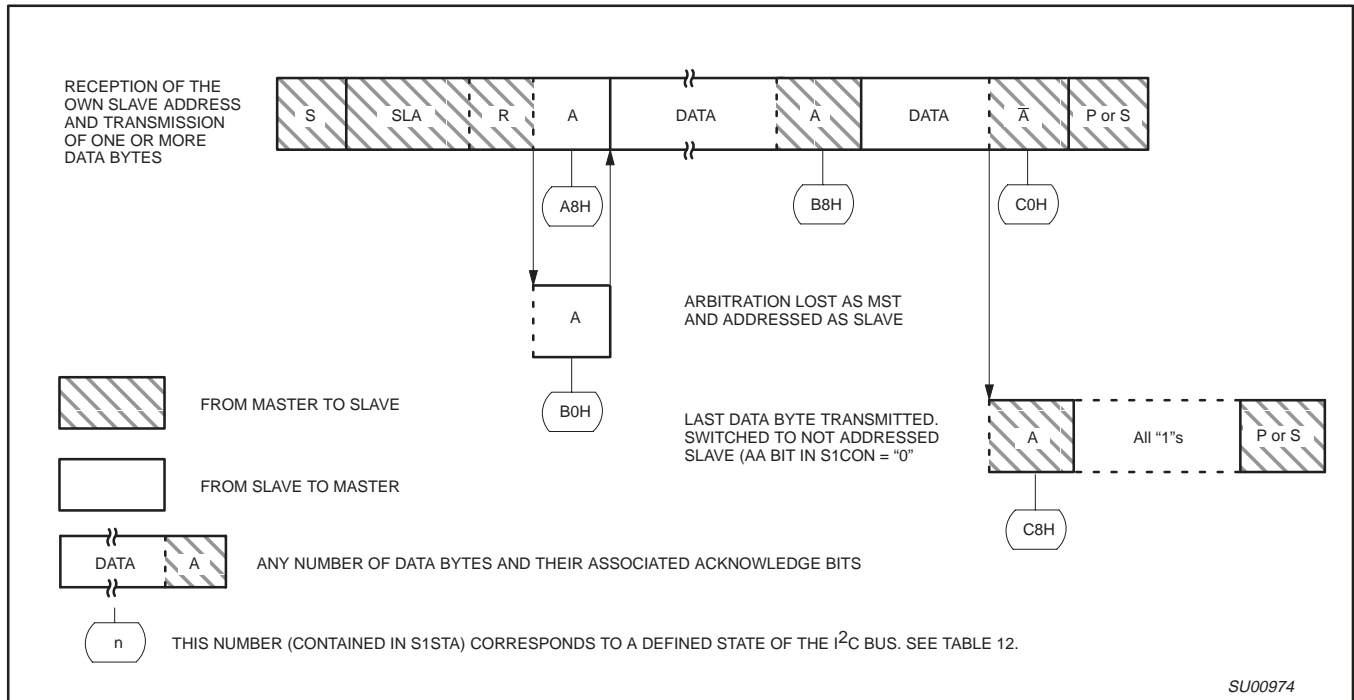

Figure 25. Format and States of the Slave Transmitter Mode
**Slave Transmitter Mode:** In the slave transmitter mode, a number of data bytes are transmitted to a master receiver (see Figure 25). Data transfer is initialized as in the slave receiver mode. When S1ADR and S1CON have been initialized, SIO1 waits until it is addressed by its own slave address followed by the data direction bit which must be “1” (R) for SIO1 to operate in the slave transmitter mode. After its own slave address and the R bit have been received, the serial interrupt flag (SI) is set and a valid status code can be read from S1STA. This status code is used to vector to an interrupt service routine, and the appropriate action to be taken for each of these status codes is detailed in Table 12. The slave transmitter mode may also be entered if arbitration is lost while SIO1 is in the master mode (see state B0H).